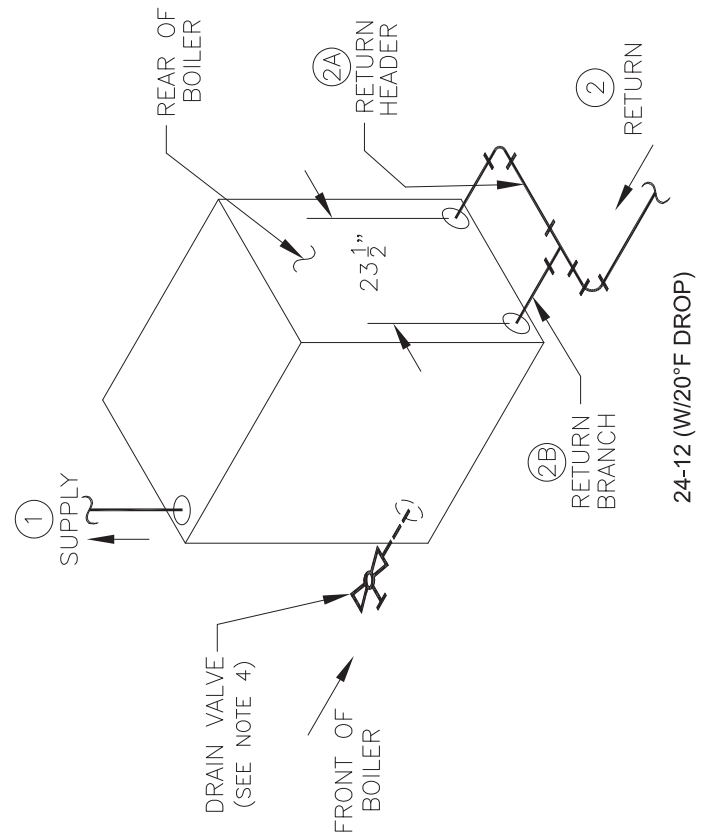

Figure 26: Series 24 Minimum Piping - Parallel - Water Boiler
Connect supply and return piping to heating system (see Figures 26 through 32). Flow direction for hot water boilers must be from the rear return out through the top front supply. Steam boilers can pipe return to the front as an alternate location. Some boiler sizes may require the use of additional supply and return tappings. Check Figure 24 and applicable piping diagram for the boiler size you are installing.
- i. If minimum return water temperature can be maintained at 135°F and temperature differential across the system is at 40°F or less, refer to Figure 26 or 27 for recommended minimum boiler piping details.